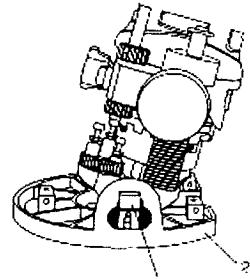

Fig. 18
1. Loosen both bevel adjusting locks (1) by pulling them outward from the router base (2) (see Fig. 18).